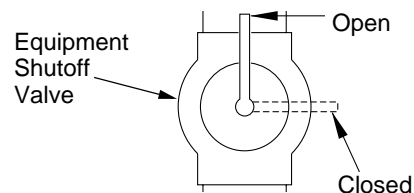

Figure 14 - Equipment Shutoff Valve
1. Close equipment shutoff valve (see Figure 14).
1. Open equipment shutoff valve (see Figure 14, page 8).